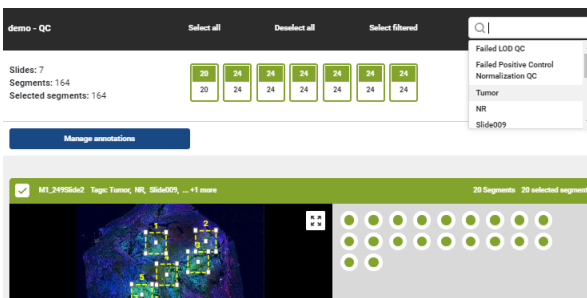

Figure 56: All scans selected
1. In most cases, you'll want to start with all scans and segments selected; each slide icon should be green (see Figure 56); if a slide icon is orange or gray, click on it until it toggles to the green status (meaning all segments are selected).